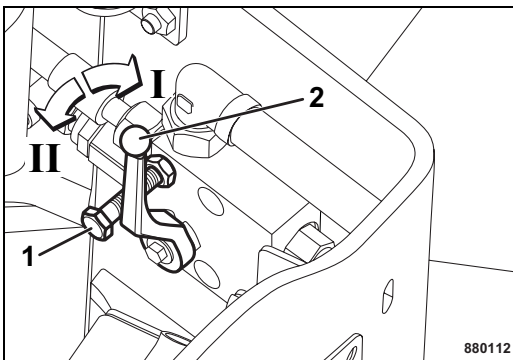

Fig. 109
- Switch the ball valve (2) (Fig. 109) back to position "I", turn the locking screw back in and